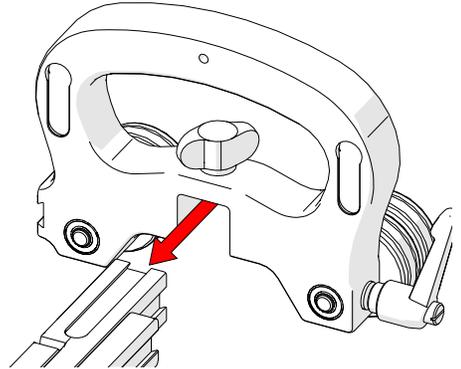

Fig. 24 - Attach to a frame bar
2. Slide the wheel block with handle onto the dovetail of the dual pivot frame bar (Fig. 24).